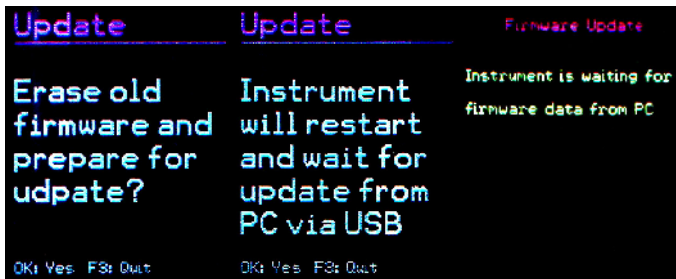

Figure 48: Firmware update
6. Within the VM25 “Instrument Settings” select the option “Update Firmware” and confirm the warning and subsequent hint messages by pressing OK. By carrying out this step the old firmware is deleted. The VM25 will then indicate that it awaits new firmware data from the USB port (Figure 48).